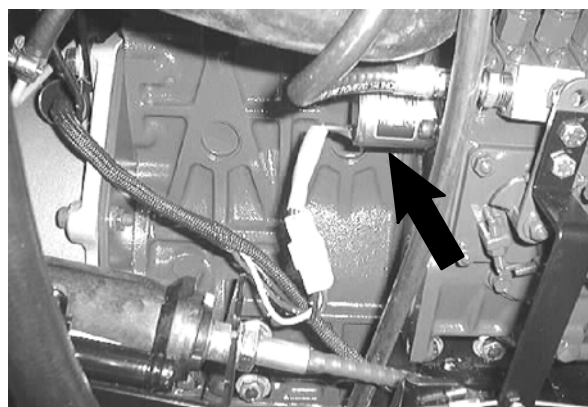
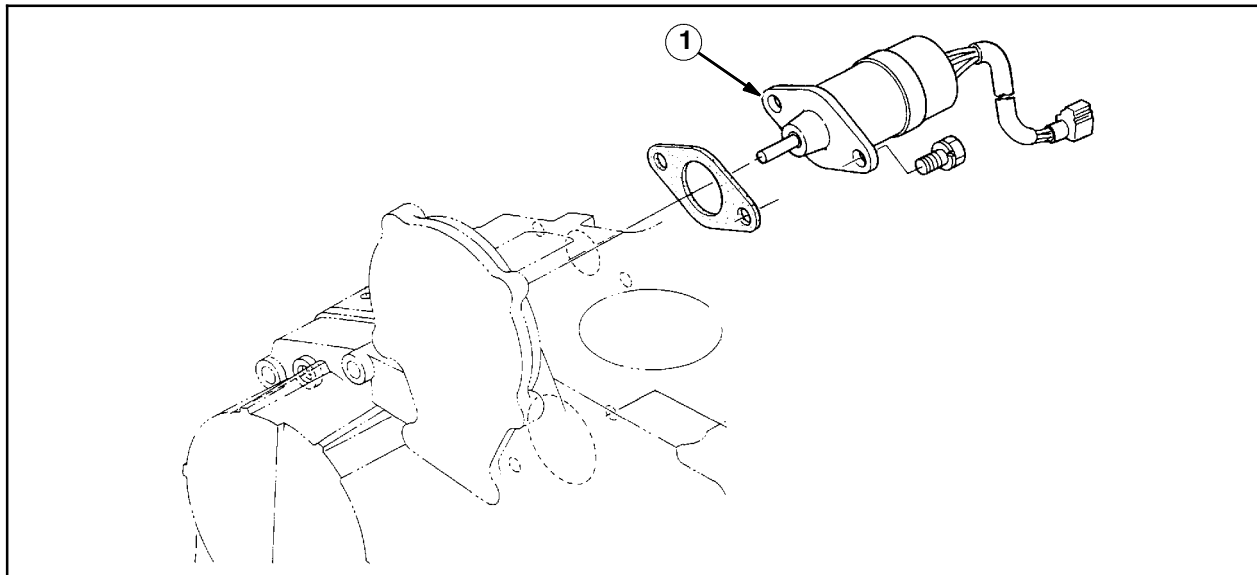

FIG. 1
FIG. 2
1. Disconnect the stop solenoid wire harness from the main harness. Remove the stop solenoid assembly from the machine. Refer to Fig. 1 and Fig. 2.
3. Install the replacement stop solenoid (1) onto the fuel injection pump where the old stop solenoid was previously installed. Refer to Fig. 1 and Fig. 2.
5. Insert the brass terminal end of the jumper wire (3) into the slot where the yellow wire was previously connected.
6. Route jumper wire (3) and connect it to the white pig tail on the starter motor.
7. Use cable ties (4) to secure the wire away from the exhaust system and fuel lines.